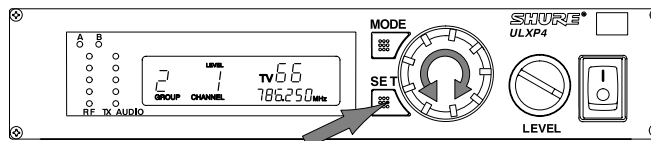

FIGURE 46
**NOTE:** If the volume control knob has been set to a level higher than the locked level, the output level will remain locked and the Volume Level warning indicator will flash on the receiver display. See Figure 46. Rotate the volume control knob counterclockwise until the Volume Level warning indicator stops flashing. This will unlock the output level setting.